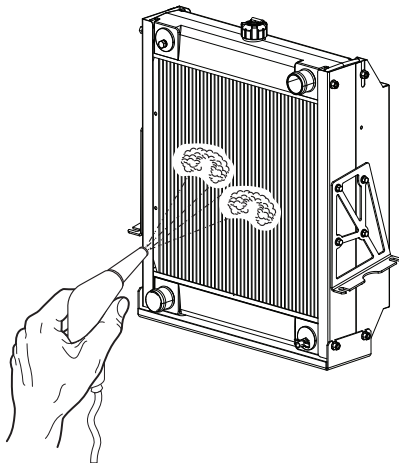

Figure 35. Radiator Cleaning
1. Blow off dirt and dust from the fins and radiator with 28 psi (193 kPa) or less of compressed air (Figure 35). Be careful not to damage the fins with the compressed air.